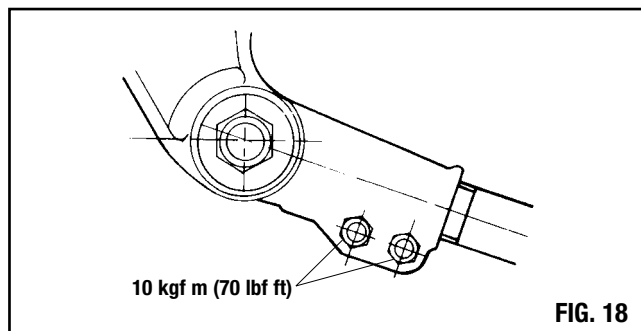

FIG. 18
- (xiii) Tighten torque arm clamp bolts to 10 kgf m (70 lbf ft) (Fig. 18).